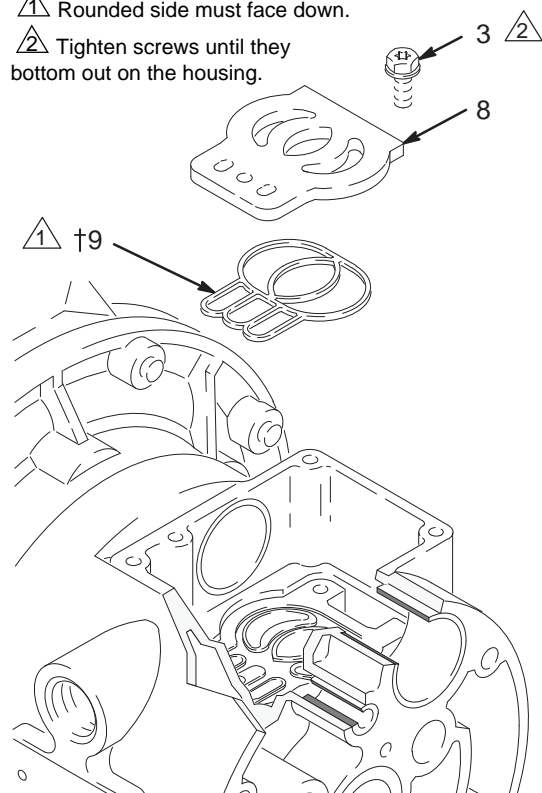

Fig. 11
5. Inspect the valve plate (8) in place. If damaged, use a Torx (T20) screwdriver or 7 mm (9/32") socket wrench to remove the three screws (3). Remove the valve plate (8) and seal (9). See Fig. 11.
2. Install the valve plate seal (9†) into the groove at the bottom of the valve cavity. The rounded side of the seal **must face down** into the groove. See Fig. 11.
3. Install the valve plate (8) in the cavity. The plate is reversible, so either side can face up. Install the three screws (3), using a Torx (T20) screwdriver or 7 mm (9/32") socket wrench. Tighten until the screws bottom out on the housing. See Fig. 11.